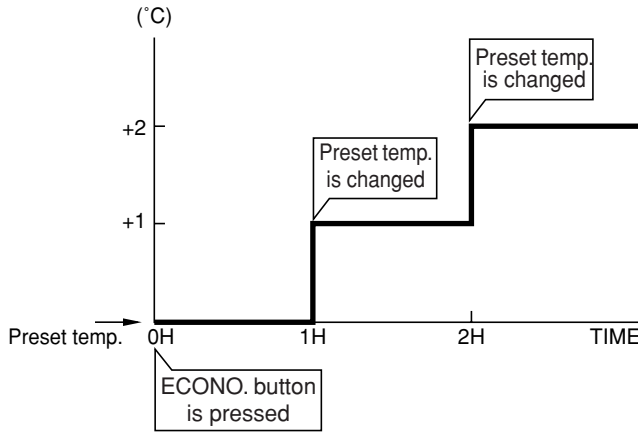

Fig. 7-3-1
- (1) Cooling operation
- The preset temperature is changed automatically as shown in Fig. 7-3-1.